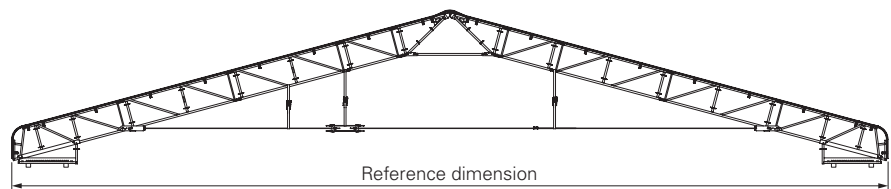

Fig. A7.06
- Check reference dimension and adjust if necessary. (Fig. A7.06)